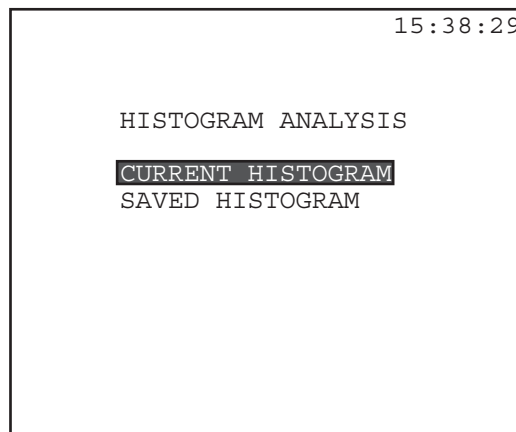

Figure 47 Histogram Analysis Menu
- Figure 47 shows the Histogram Analysis menu, which appears upon entering this item.